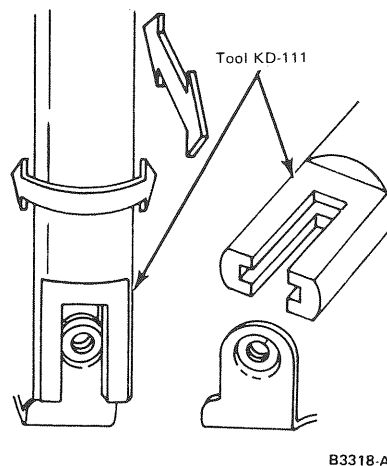

FIG. 10 Using Alignment Tool
2. Using the tool shown (Figure 10) and exerting **very light pressure**, align the breaker point bracket. **Do not bend the breaker arm.**